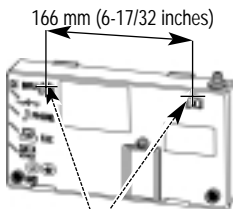

Figure 3 - Mounting hooks for optional wall mounting.
- 1) To mount the Phonecell SX4e on a wall, mark two hole locations 166 mm (6-17/32 inches) apart. These hole locations match the mounting hooks on the back of the unit - **see Figure 3**.